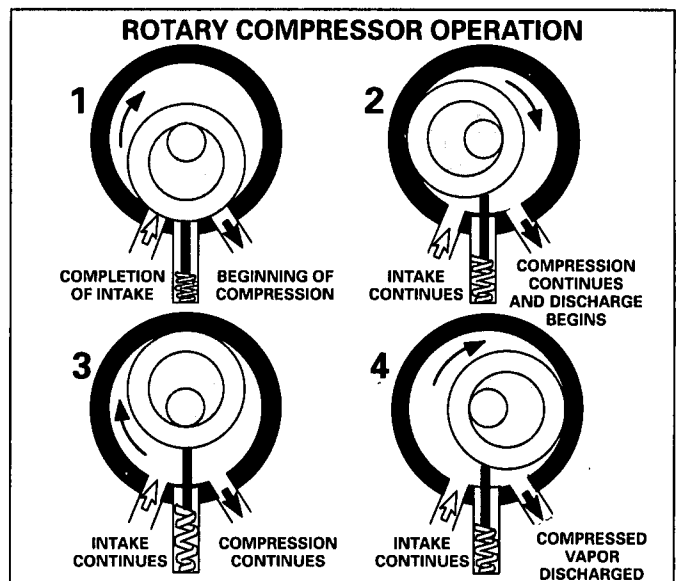

FIGURE 12
Figure 12 illustrates the four steps in a rotary compressor's continuous intake cycle. The spring-loaded blade is compressed fully at the beginning of an exhaust cycle. At this instant the compression is beginning (1). The roller rotates and compression continues (2). The suction port is always separated from the discharge port (3). Intake continues and the compressed vapor is discharged (4).